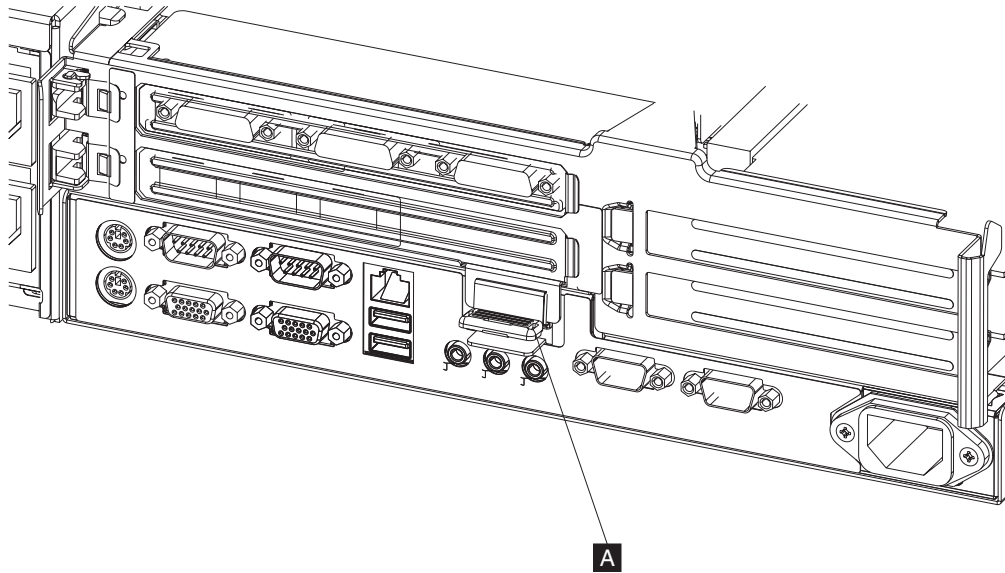

Figure 34. Loosening the spline screw
5. Lift the spline, push down on the rear spline latch tab (**A** in Figure 34), and pull up to remove the spline along with the riser card.